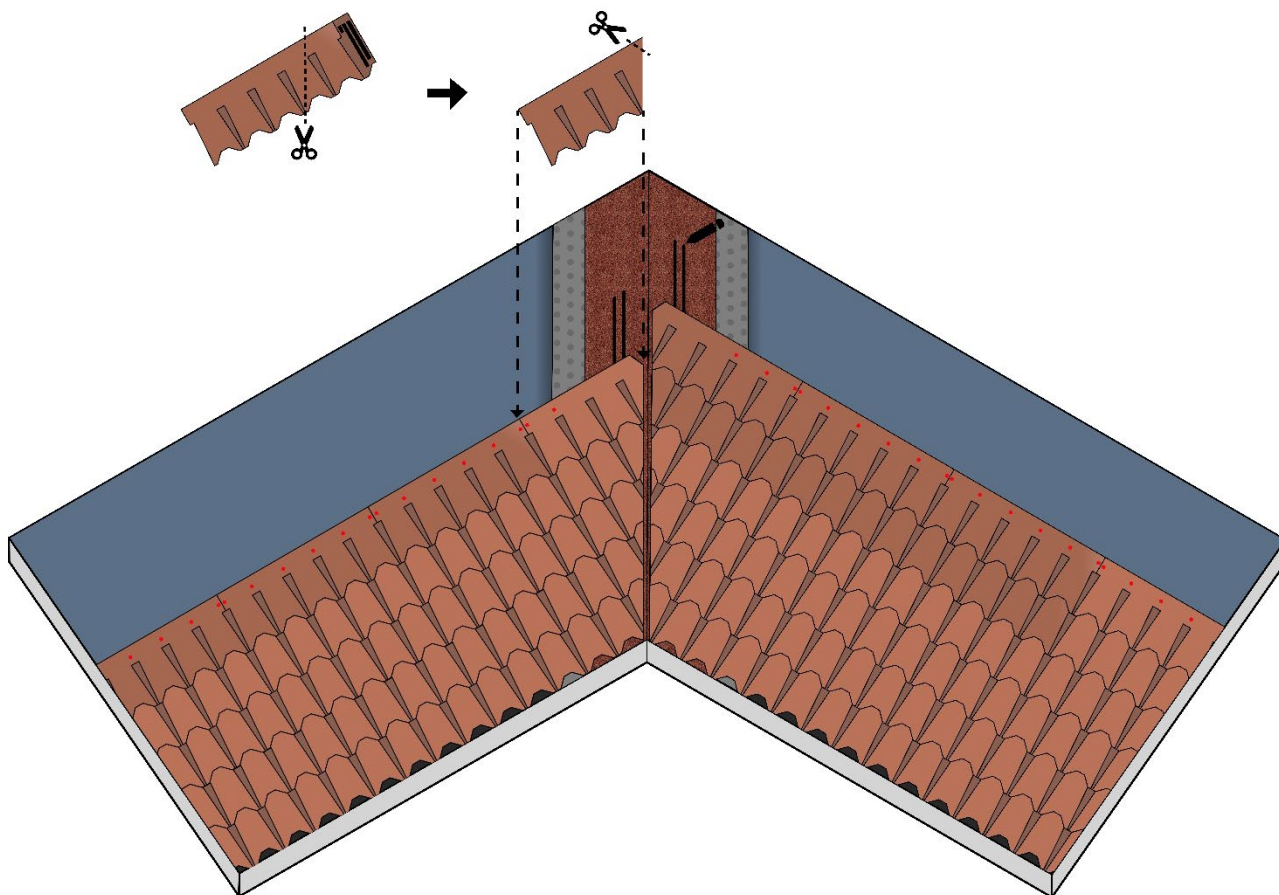

Fig. 16 - Installation of Master Coppo on the valley with the granulated membrane
- As for the valleys, the first option is to create them with a double layer of bituminous membrane. In this case, lay a strip of bituminous membrane (such as Safety EPP) with a thickness of at least 3mm on the valley, and on top, a bituminous membrane with a granulated surface (such as Safety EAP), with a thickness of at least 4mm. The Safet EPP should have a width of approximately 100cm to ensure the waterproofing of the valley, the membrane with granulated surface can have lower width (but at least 60cm). Next, install the Start Line SA and the shingles of the first pitch up to the valley line, cutting them 3 cm and parallel to the valley line. Fix the shingles and Start Line SA with nails at least 30mm long, placed approximately 40 cm from the valley line, and with Bitustick, applied in two parallel rows, at intervals of no more than 40 cm from the valley line - Fig. 16. It is also advisable to cut the upper edge of the shingle across the valley line, to direct the descending water along the valley axis - Fig. 16.
- Repeat the same procedure for the second pitch. In the end, a channel should be created between the shingles along the valley line, where water will preferentially flow. - Fig. 16